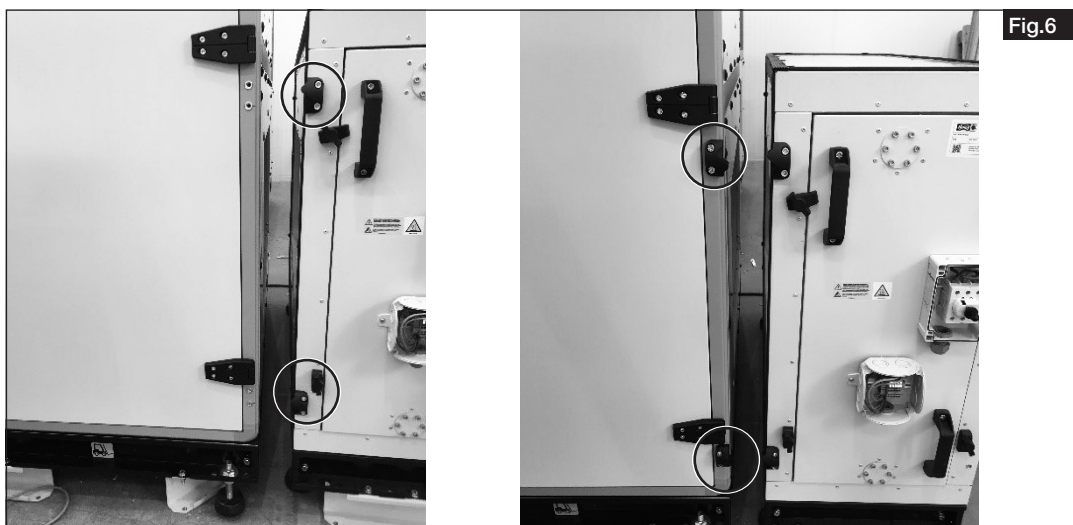

Fig.6
4. Connect module connector to the AIR1 and install the pre-heater (see Fig. 6).